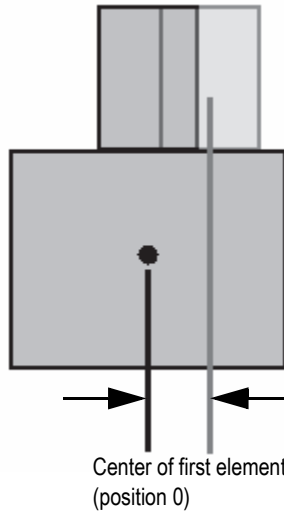

Figure 4-8 The secondary offset
- e) Select **Sec. offset**, and then enter **0** to indicate that the probe is centered on the wedge on the secondary axis. If the probe is not centered on the wedge, enter the appropriate value (see Figure 4-8 on page 100).